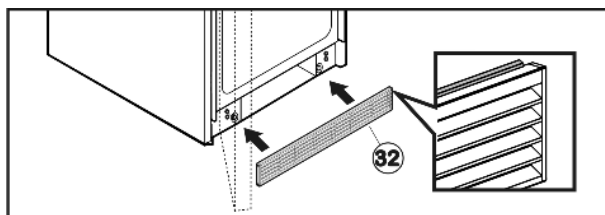

Fig. 50
- ▶ Fit lower ventilation grille Fig. 50 (32) flush with the floor such that the rubber lip is at the top. It is held in place via magnets.